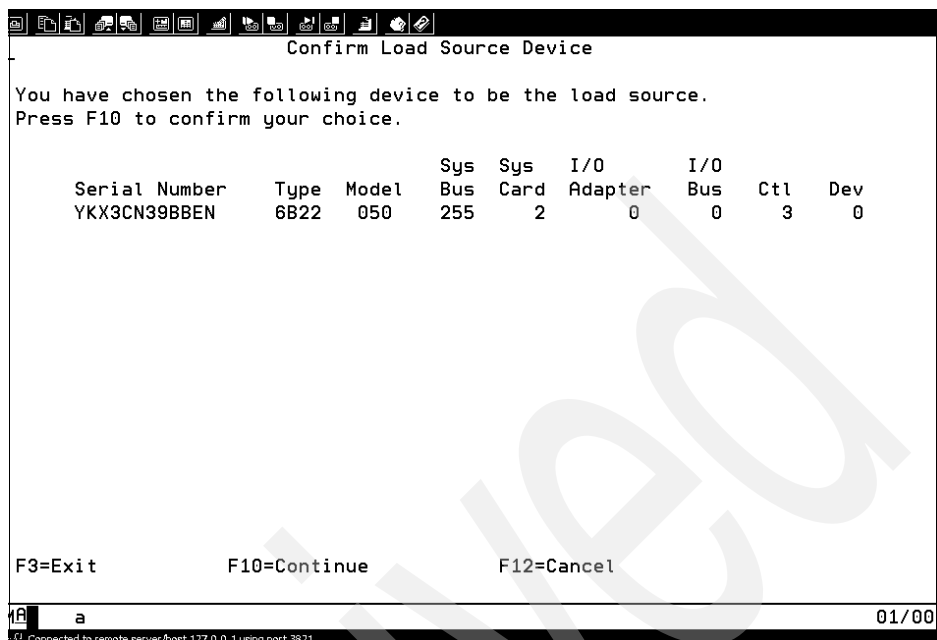

Figure 7-52 Confirm source device
8. Confirm the previous selection of the Load Source Device by pressing F10; see Figure 7-52 on page 290.